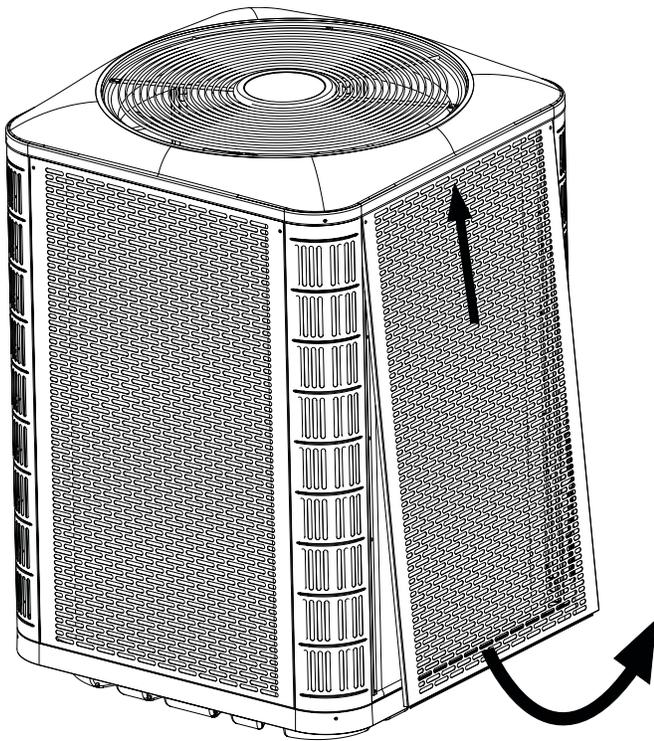
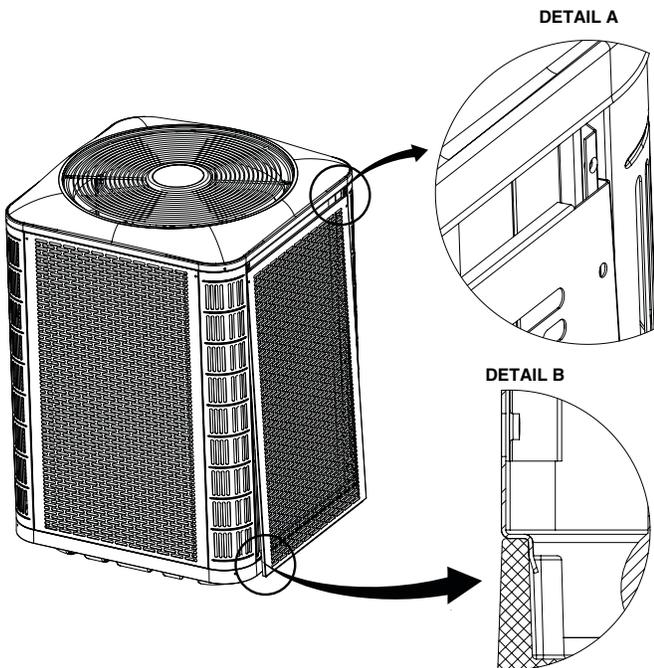

Figure 6. Panel Removal
Figure 7. Panel Installation
- To access the internal components of the unit, refer to Figure 6 for panel removal and Figure 7 for panel installation.
2. Slide the panel up towards the top pan in order to clear the bottom flange from the base pan. See Figure 6 (page 9).
1. Insert the top corners of side panel flanges into the corner post channels as shown in Detail A in Figure 7 (page 9).